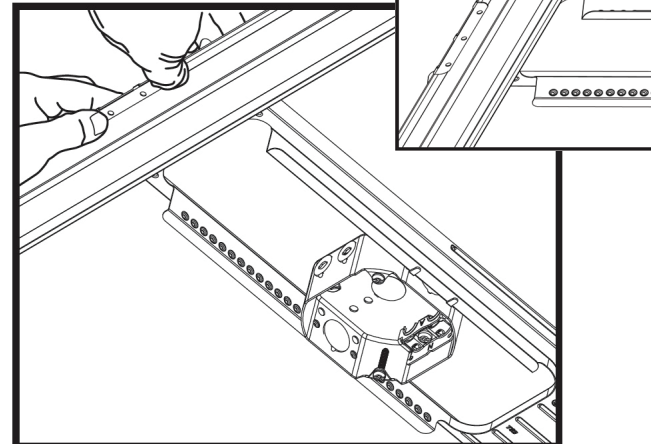

Figure 2
4. Bend the guiding flange around the edge of the furring channel as shown on Figure 2.